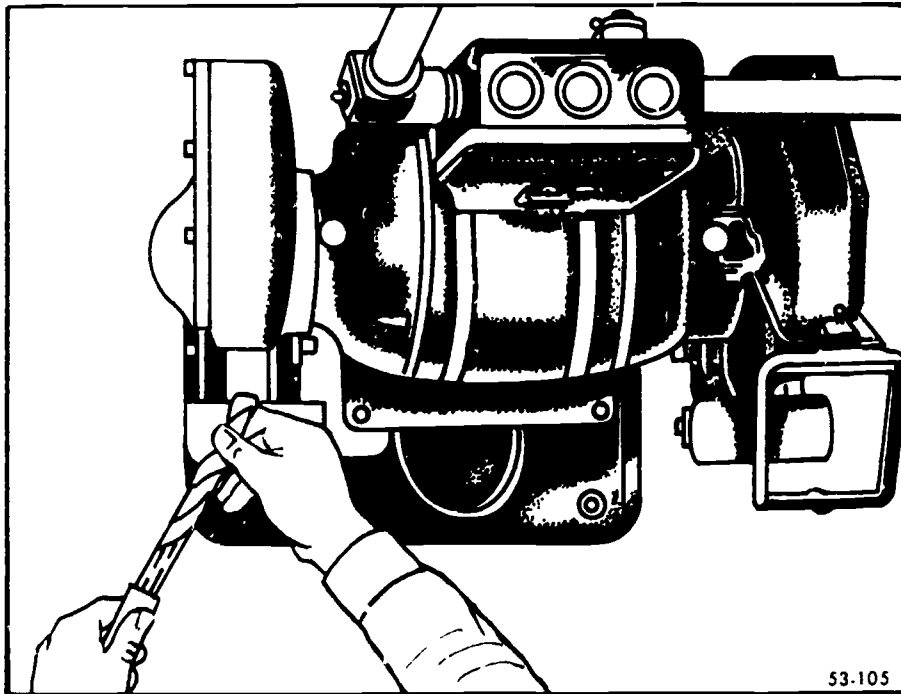

Figure 4-9 Positioning a drill for grinding.
**Exercises (242):**
**Grinding Drill Point Angles.** The actual grinding operation is relatively simple. Position the drill for the desired cutting edge angle. Using your fingers below the drill as a pivot, push the shank down, as shown in figures 4-9 and 4-10. This grinds the cutting edge angle and the clearance angle at the same time. You need not rotate the drill except for very large sizes. First grind one cutting edge, then the other, as many times as necessary, until the grinding is completed. Make frequent checks to insure that the proper angles and lengths of cutting edges are being maintained. NOTE: Never raise the shank of the drill higher than the cutting edge while you are grinding or a negative angle will be produced.